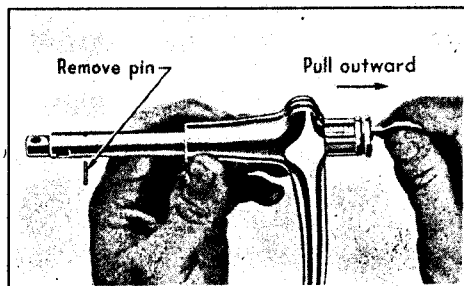

Fig. 2. To remove a door handle lock cylinder, remove the retaining pin and pull the cylinder out with the key.
7. Door Handle—Remove the cylinder by removing the retaining pin at the lower end of the shank and drawing cylinder out with the key inserted, as shown in Fig. 2.